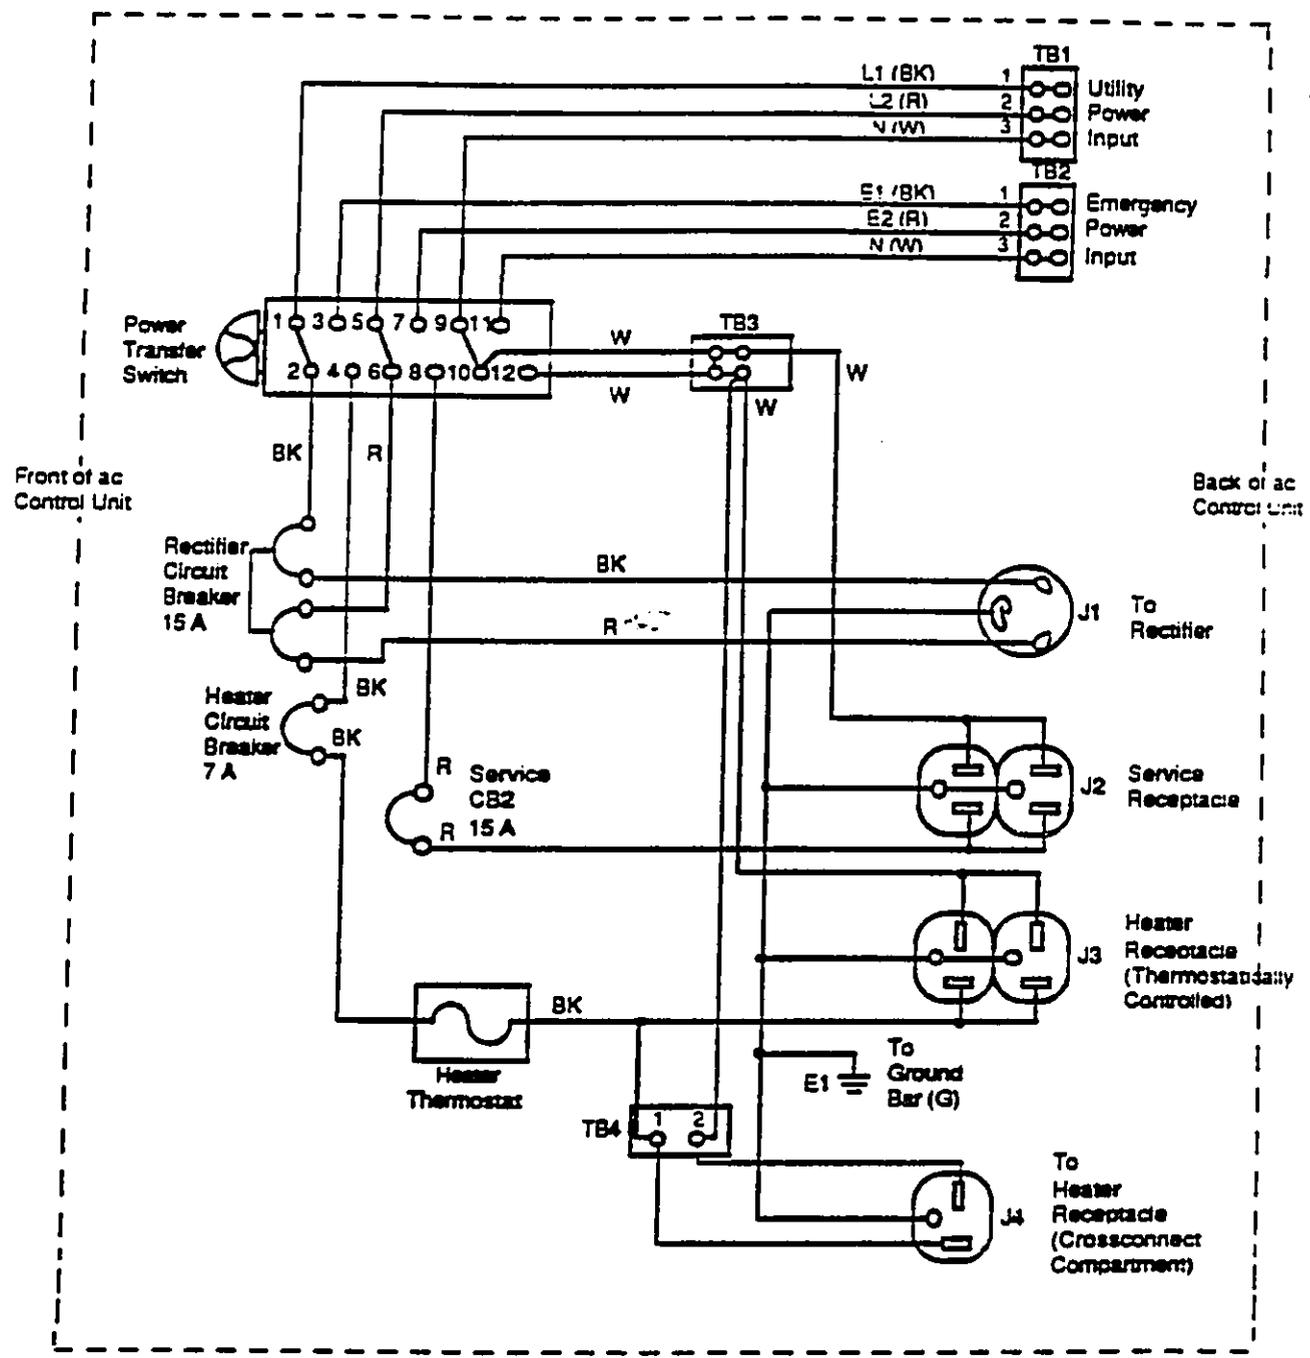

Fig. 2-15
- 5 Switch on the circuit breakers and verify that power is active at the rectifier outlet, and at the service outlet (see Fig. 2-15).
Verify that power is active at both heater outlets (see Fig. 2-15).